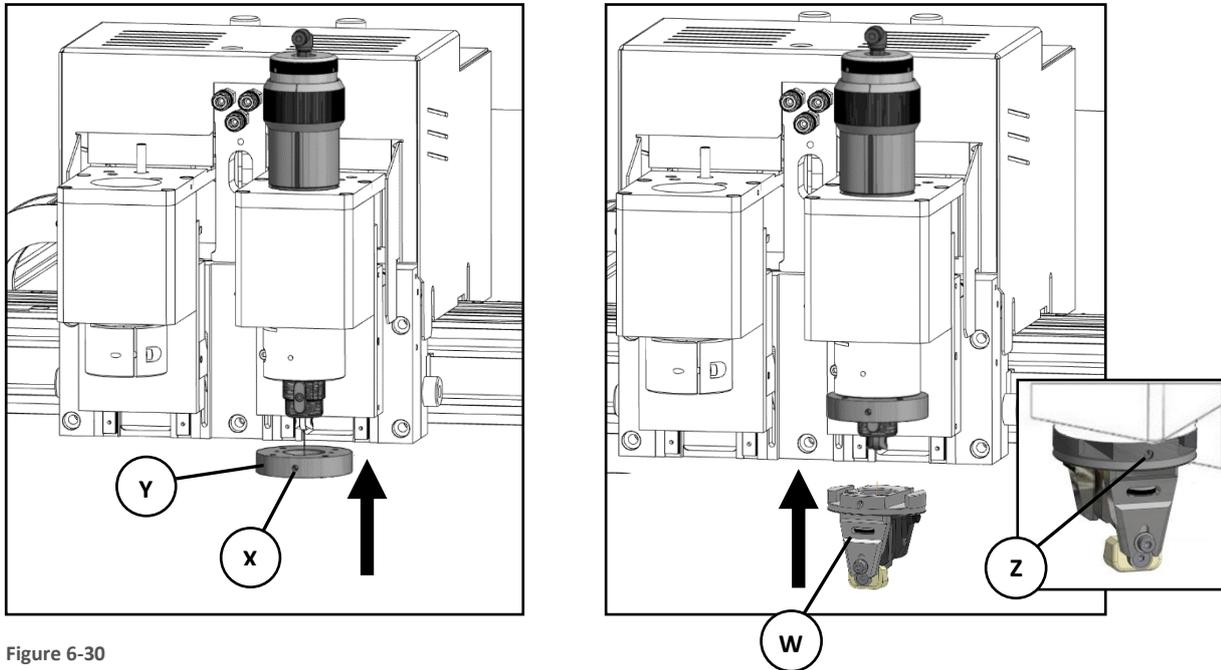

Figure 6-30
| Reference Figure 6-25 | Description | Reference Figure 6-30 |
When mounting a head (W) on the VersaTool, insert it under magnet holder and when it adheres to the flange, tighten the screw (Z) (Figure 6-30).
- Loosen the screw (Z) (Figure 6-30).
- hold the release tool/fork (1) by its handle and insert it into the slot located in the top part of the head. Holding the tool with one hand support the release fork tool with the other, insert into the head slot (2) and give it a slight knock to free the head.
- This will detach the interchangeable head from the retaining magnets, and it will remain attached to the magnets of the release tool (3)